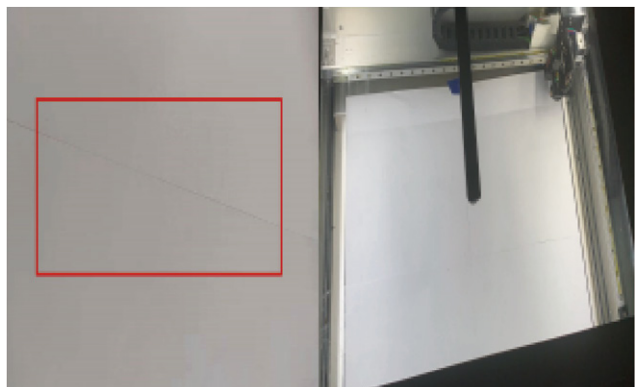

Figure 11
- 1) A4 paper, spread on the work table (as shown in Figure 11), wait for the button light to turn green automatically, and then click the button for processing.